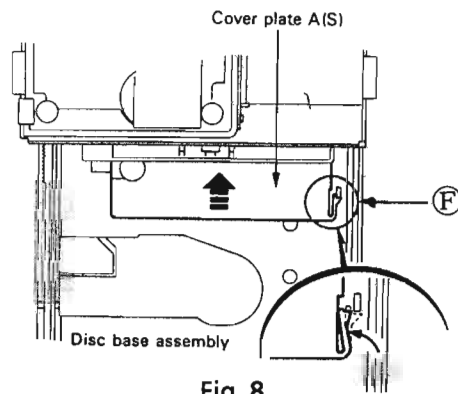

Fig. 8
6. After turning over the CD changer mechanism assembly, move the point ⑥ engaging the cover plate A (S) and disc base assembly in the direction of arrow and disengage the above plate and assembly. (Refer to Fig.8)